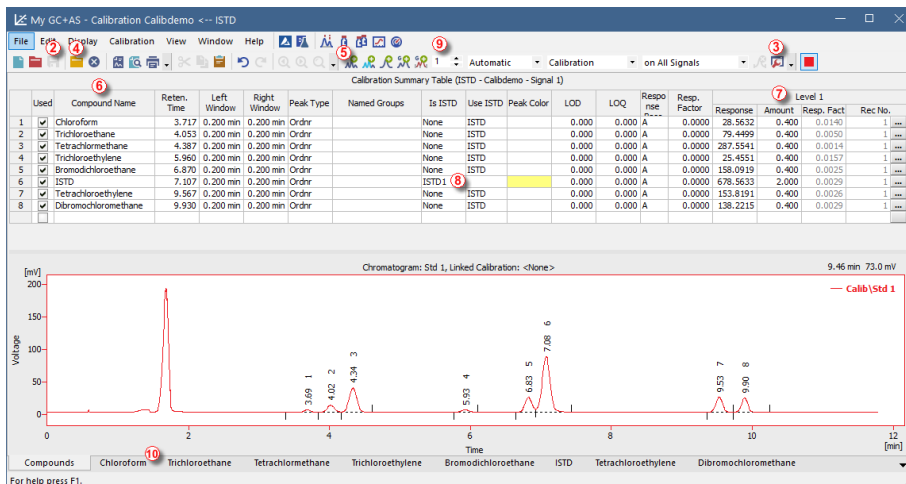

Fig 9: Calibration window - loaded standard
- Click on any row in the *Result table* ③. The peak (or peaks) corresponding to the row you just clicked onto will change color according to the color of the signal. This change will last until the focus in the *Result table* is canceled.
- To add permanent color to the peak, click the *View* button ④ in the right side of the *Results* tab. This will get you to the linked calibration file. There, in the *Calibration Summary Table*, find the *Peak Color* column (see **Fig 9** on pg 20.). In the row corresponding to the peak to be colored select the appropriate color and click *OK*. Return to the *Chromatogram* window by using the  icon in the menu. The selected peak is now colored according to the color selected in the *Calibration* window.
- You can change the integration of peaks by using the interactive icons on the toolbars on the left side of the *Chromatogram* window ⑤ or directly on the *Integration* tab ⑥. Any changes made either way will change the **Integration table** and can be copied to the template method. To do so, click on *Method - Save as Template...* menu command.
- Check that the *Current Level* field ⑨ is set to 1 in order to set the calibration level number 1. Use the *Add All* icon (blue) ⑤ to move all identified peaks to the calibration table. The Calibration table appears in the *Calibration* window, ready to be completed as seen on Fig 9 on pg 20.
- As it can be clearly seen in the calibration, particular peaks are now identified according to their retention times only. Click and edit the fields in the *Compound Name* column ⑥ to those seen on Fig 9 on pg 20. You may also set the peak color for some peak, for example the ISTD peak, in the *Peak Color* column.
- Fill the *Amount* column ⑦ with the concentration of the particular compounds. In this standard mixture, all compounds except for the peak number 6 have concentration of 0.4.
- Peak number 6 is marked as an ISTD peak. In the *Is ISTD* column, change its type to ISTD1 ⑧ and then set its amount in the *Amount* column to 2.
- The first calibration level is now set. On the tabs of the individual compounds ⑩ (named according to the *Compound Name* field) the graph with single-point linear calibration can be seen.
- Proceed to setting the other calibration levels. The operation is quite simple and straightforward - use the *Open Standard* icon (yellow) ④ again to open another calibration standard named STD 2.PRM. Set the calibration level in the *Current Level* field ⑨ to 2 and use the *Add All* icon (blue) ⑤. Fill in the *Amount* column with 1.0 values (except for the ISTD peak, in which the 2 value should be used again).